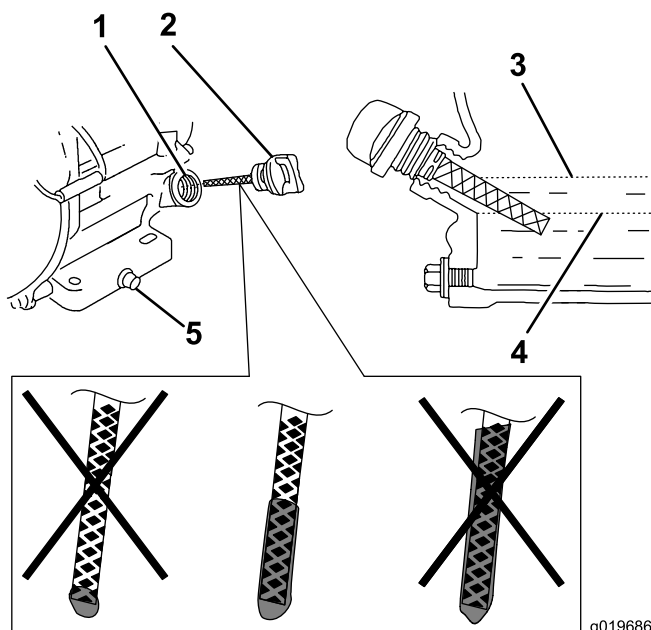

**Figure 27**
- Position the machine so that the engine is level, and clean the area around the oil-fill tube (Figure 27).
- Remove the drain plug, washer, and dipstick (Figure 27).